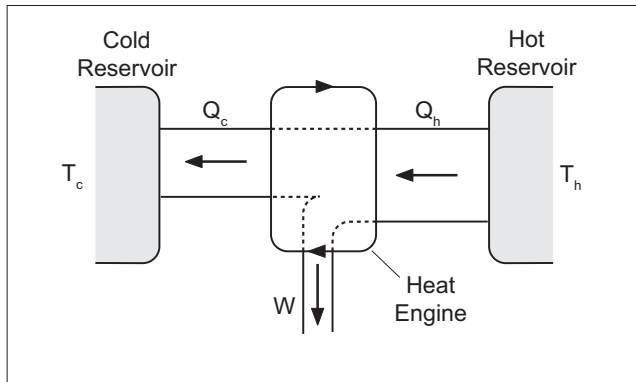

Figure 2: Heat Engine
A heat engine can be represented by a diagram (Figure 2). The law of Conservation of Energy (First Law of Thermodynamics) leads to the conclusion that $Q_H = W + Q_C$, the heat input to the engine equals the work done by the heat engine on its surroundings plus the heat exhausted to the cold reservoir.
►NOTE: The arrows are reversed compared to the heat in Figure 2. By conservation of energy,